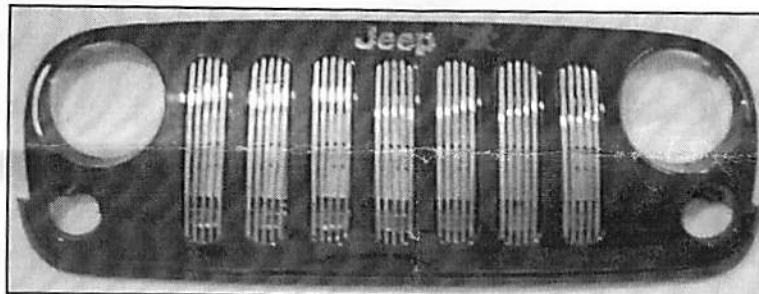

Figure 2 – Front View of positioning lower Billet Grille
4. Position one piece of Billet Grilles onto grille shell cavity (Figure 2).